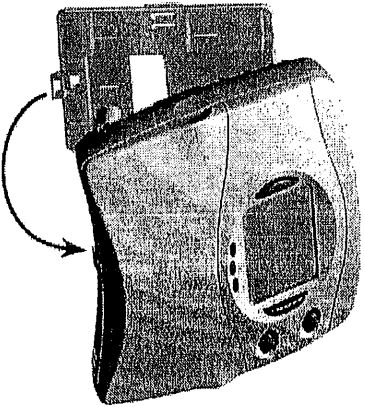

Figure 2
In order for this Climate Technology thermostat to control your system, the system type must be specified by selector switch on the rear inside of the thermostat. There are also other selector switches that allow you to customize the features to suit your needs. Refer to Figure 2 for removal of wallplate.
- Remove the wallplate from your thermostat by pressing the release tab on the bottom of the thermostat. (See Figure 2.)